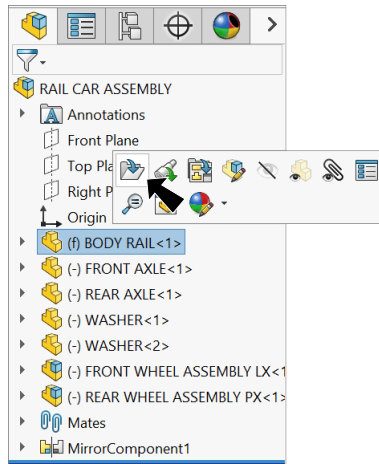

Fig. 17
- Step 2. Click **BODY RAIL** in the Feature Manager and click **Open Part** on the context toolbar, Fig. 17.